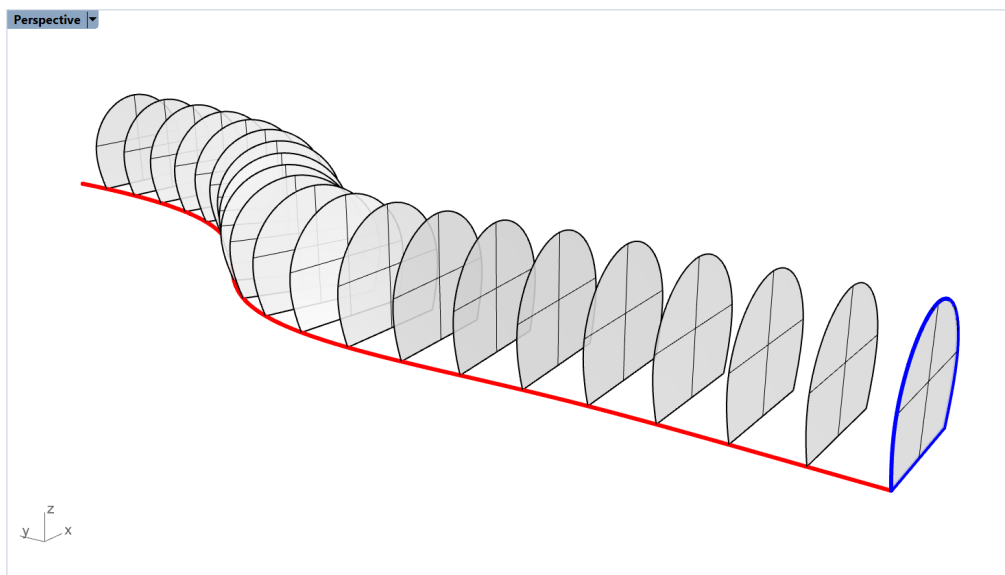

Figure 55: Creation of excavation stages by duplicating initial cross-section surface. Tunnel surface is not shown.
11. Select the initial cross-section surface and use command **\_ArrayCrv** to duplicate it along the direction path (red curve) with a spacing of roughly 5 m; this will create excavation stages that can be gradually removed during numerical simulations (Figure 55). In the command options pop-up window, set *Distance between items* = 5, *Orientation* = *Freeform*.